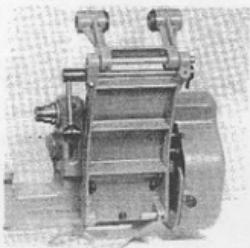

Fig. 4
a Mount the countershaft arm/swing head assembly (1) on the back of the Lathe bed, using the three $\frac{1}{4}$ " dia. x $1\frac{1}{2}$ " long B.S.F. screws and washers which are provided. See Fig. 4. Lightly tighten the screws only at this stage.